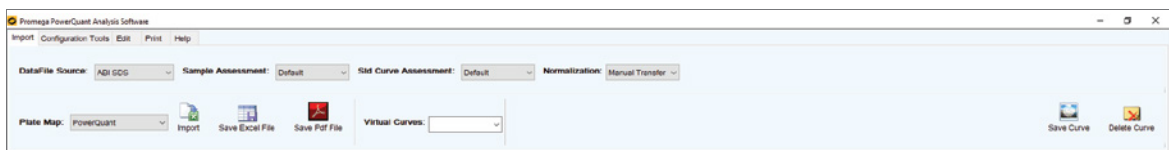

Figure 75. The 'Import' tab.
The 'Import' tab of the PowerQuant® Analysis Software is used to process qPCR data generated with the PowerQuant® System (Figure 75).
1. Use the drop-down menus to make the following selections: data file source; sample assessment, standard curve assessment and normalization settings; plate map; and virtual curve (for use with virtual standard curves only; see Section 9.L for additional information on virtual standard curves) (Figure 75). See Section 9.G for information about settings and Section 9.H for information about plate maps.